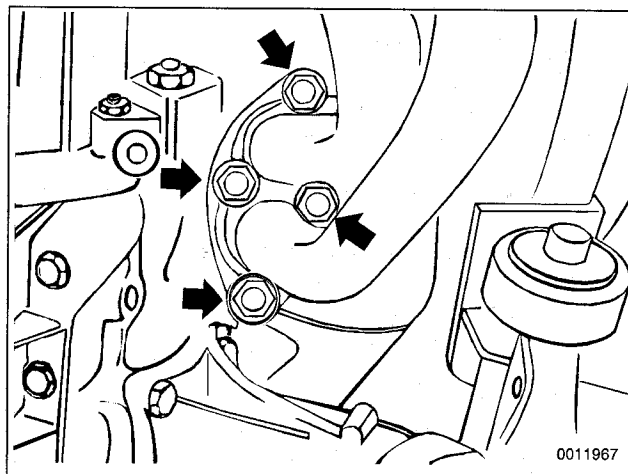

Fig. 6. Front exhaust pipe to exhaust mounting nuts (arrows), as viewed from below on 4-cylinder engine.
21. Remove front exhaust pipe from exhaust manifold. See Fig. 6.